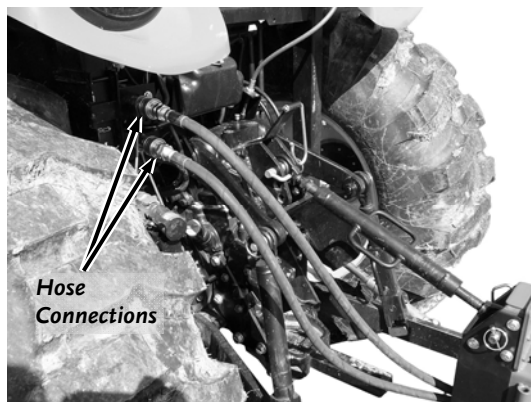

Figure 16
5. Attach the left side Splitter Hose Connector to the pressure Port coming from the Tractor pump (**Figure 16**). Attach the right side Splitter Hose Connector to the return Port going to the Tractor Hydraulic Tank.